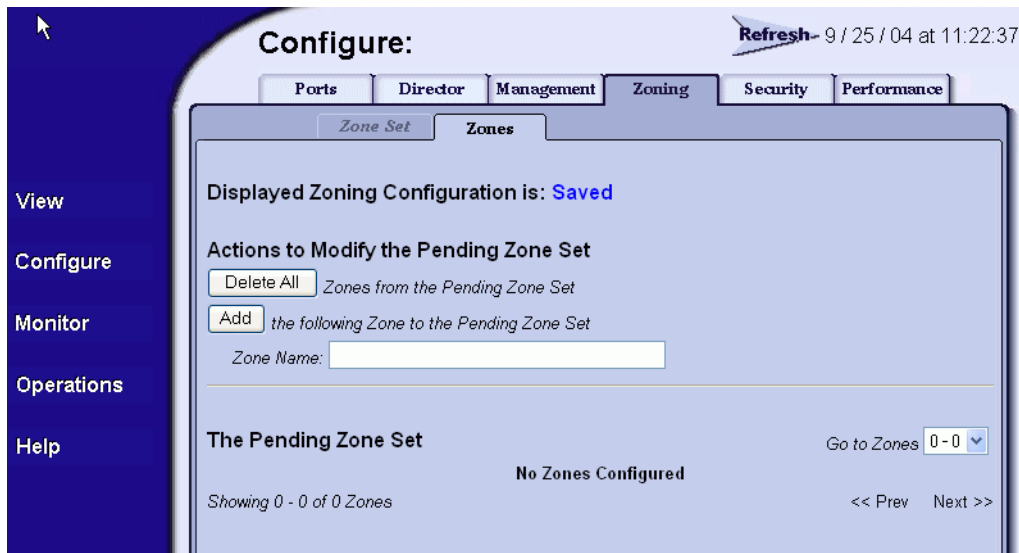

Figure 2-110 Configure Panel (Zoning Page with Zones Tab)
1. At the *Configure* panel, click the *Zoning* tab. The *Zoning* page displays with the *Zone Set* tab selected. Click the *Zones* tab. The *Zoning* page displays with the *Zones* tab selected (Figure 2-110 on page 2-122).